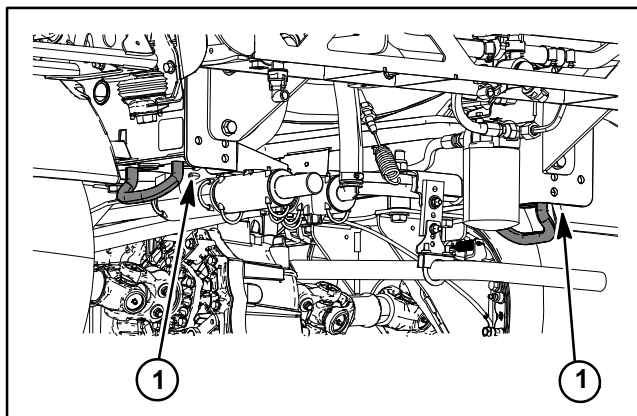

Figure 2
2. Place jack securely on the rear frame support, behind the rear tie downs (Fig. 2).